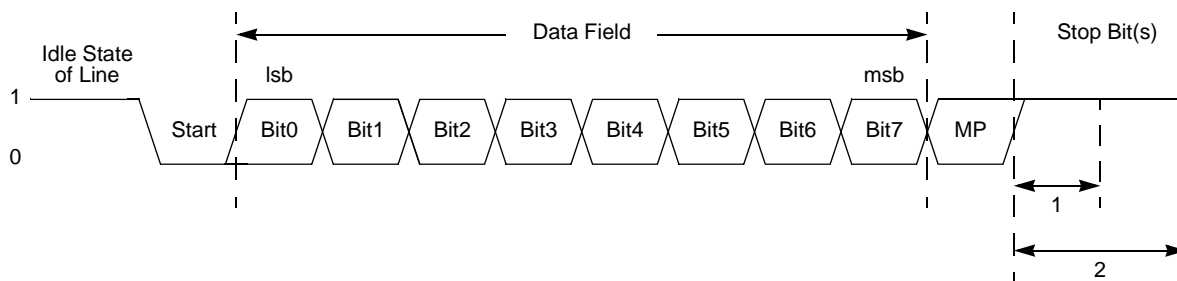

Figure 13. UART Asynchronous MULTIPROCESSOR Mode Data Format
The UART features a MULTIPROCESSOR (9-bit) Mode that uses an extra (9th) bit for selective communication when a number of processors share a common UART bus. In MULTIPROCESSOR Mode (also referred to as *9-bit Mode*), the multiprocessor bit (MP) is transmitted immediately following the 8-bits of data and immediately preceding the Stop bit(s) as displayed in Figure 13. The character format is: